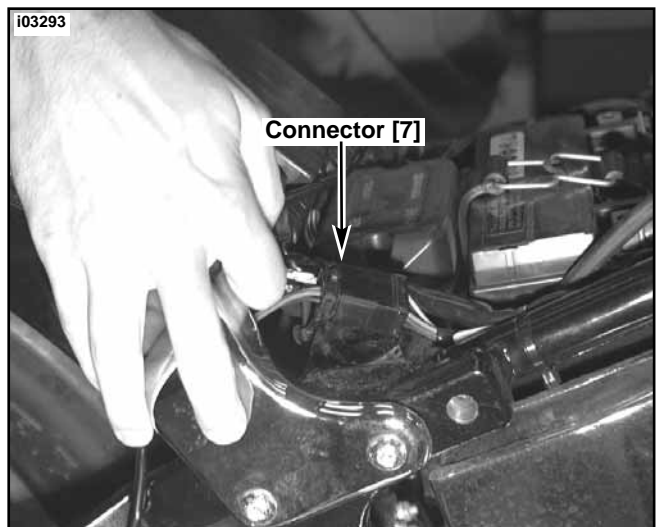

Figure 1. Remove Signal Wiring from Connector
3. See Figure 1. Refer to the Appendix covering Amp Electrical Connectors in applicable Service Manual and locate left and right signal wiring at turn signal connector under seat. Unplug connector and following instructions in Service Manual, remove terminals from connector.